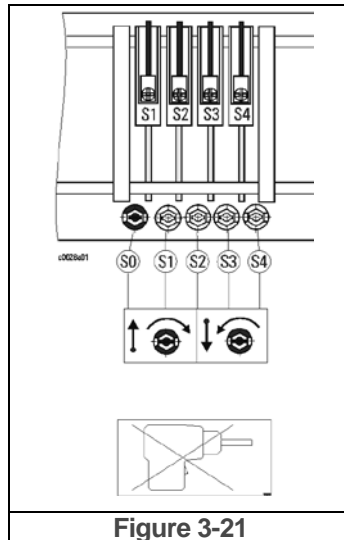

Figure 3-21
- 3.8.7 Setting hoist limit switch (Figure 3-17, Figure 3-18, Figure 3-19, Figure 3-20, and Figure 3-21).
- 3) The limit switch can be adjusted at the setscrews (S1), (S2), (S3), and (S4) see **Figure 3-21**.
- All the cam discs can be moved together with the aid of the black setscrew (SO), Figure 3-21. The settings of the individual contacts relative to one another remain unchanged. The gear ratio inside the limit switch is very high and in some instances it might require many revolutions of the set screws to adjust the proper position.